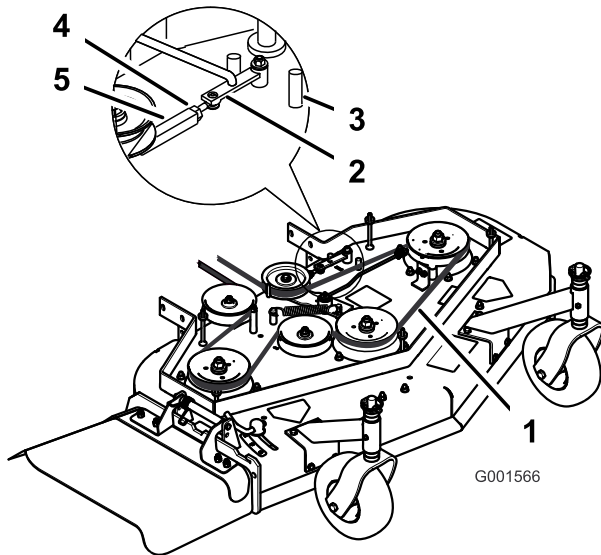

Figure 50
3. Loosen the locknut on the turnbuckle (Figure 50).
4. Rotate the turnbuckle toward the rear of the mower to increase the tension on the belt. Rotate the turnbuckle toward the front of the mower to decrease the tension on the belt (Figure 50).